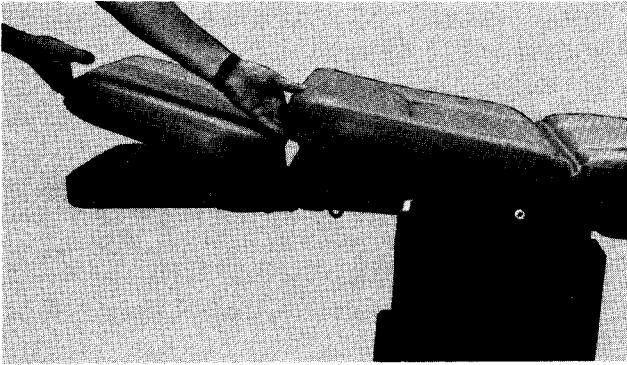

Fig. 8
- 1) With the exception of the Model 113 Chair Arms, all upholstery is secured with Velcro patches. To remove an upholstery section, grasp at the extreme end of part and lift slowly. Fig. 8.